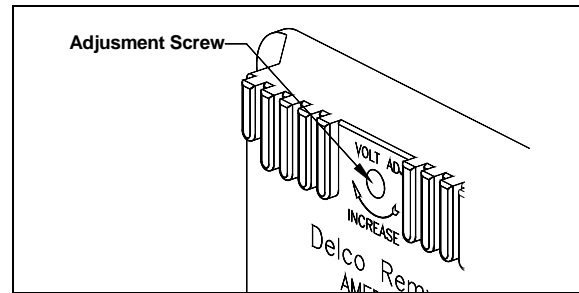

FIGURE 28: ADJUSTING REGULATOR VOLTAGE SETTING
4. If not, the desired setting can be obtained by removing the plug from the voltage regulator cover and slightly turning the adjusting screw inside the regulator. Turn the adjusting screw clockwise to increase the voltage setting or counterclockwise to decrease it. See figure 28 for details.
Resistor R2 = Turn voltage adjustment screw (identified in figure 28) with ohmmeter connecting each way. Reading should change as slotted screw is turned. If not, replace R2.